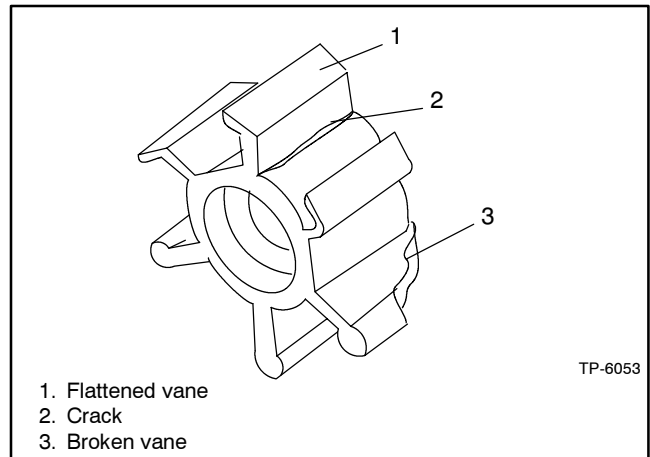

Figure 3-7 Worn Impeller
4. Inspect the impeller for damaged, cracked, broken, missing or flattened vanes. The impeller vanes should be straight and flexible. See Figure 3-7. Replace the impeller if it is damaged.